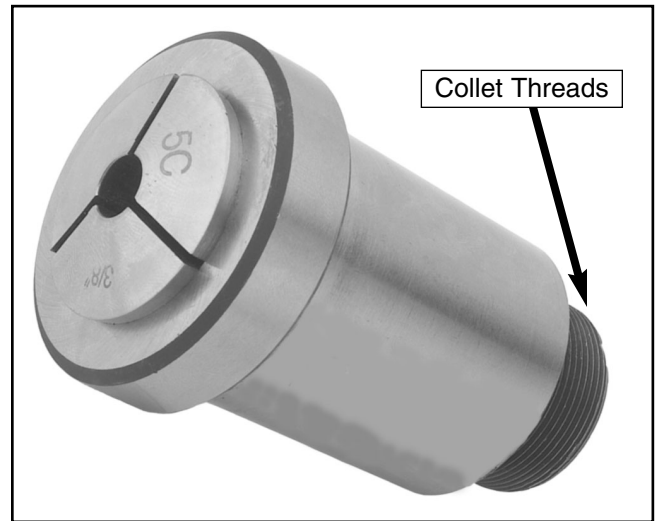

Figure 7. Collet in collet adapter.
2. Place the collet in the collet adapter, so the collet threads are exposed out of the back end of the collet adapter as shown in **Figure 7**.